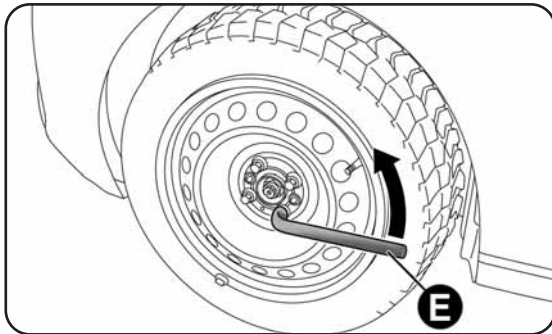

fig. 11
- loosen the retaining bolts for the wheel to be replaced by about one turn using the wrench provided E-fig. 11;
- fit the small spare wheel, coinciding pins T-fig. 11 with the openings S on the wheel;